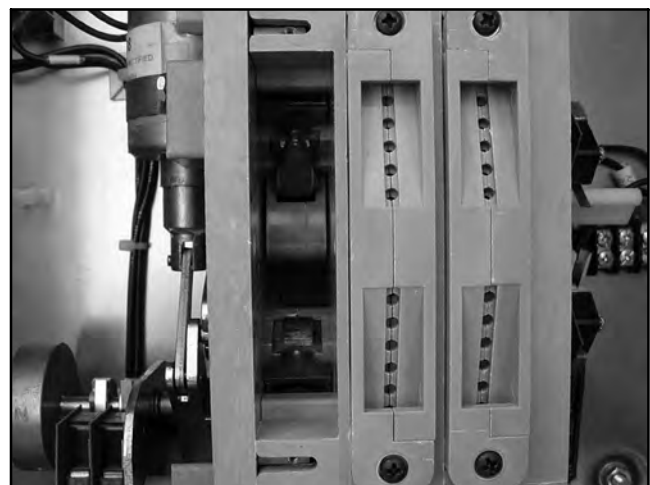

Figure 6-8 Movable Contacts (arc chute removed)
7. Inspect the movable contact for damage. See Figure 6-8. If damage is found, order a replacement power panel and continue to Step 8.